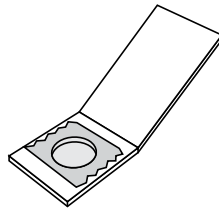

Figure 28
2. Locate the wind speed flap. Put a piece of transparent tape over the hole in the flap (Figure 28). The tape should be no wider than the flap itself.